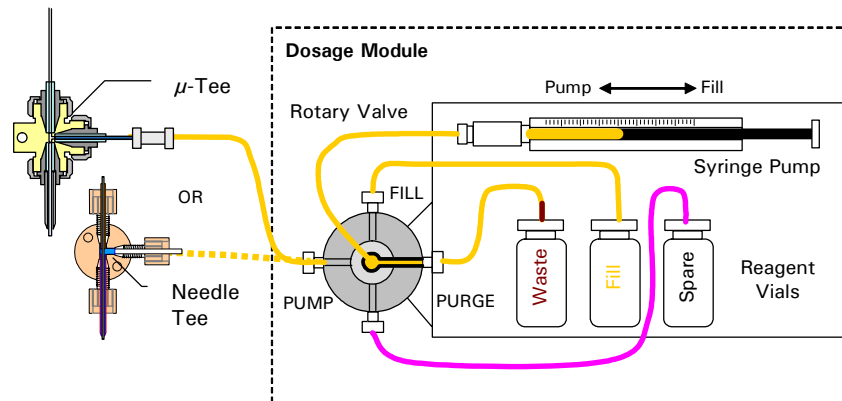

FIGURE A-6 Step 5 – Reinstall the Syringe
- g) Switch the valve into the PURGE position and purge again (FIGURE A-6). Refill the syringe in the FILL position.